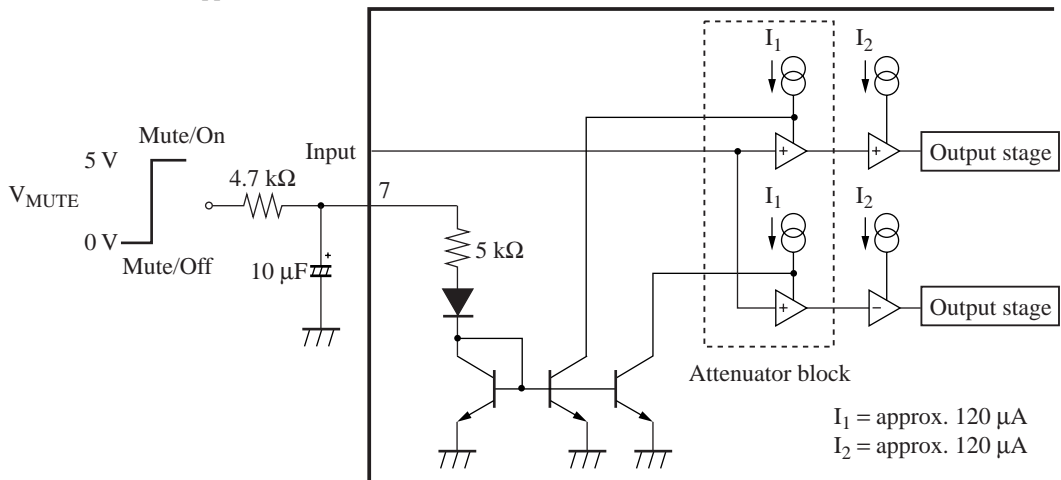

Figure 6
2) The muting circuit is as shown in figure 6. The amplifier gain including attenuator block is given in the following equation :